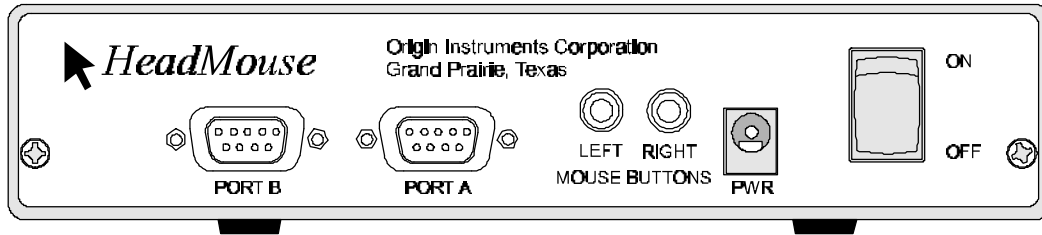

Figure 3. Illustration of HeadMouse Rear Panel.
- Using the HeadMouse interface cable (9-pin Serial, PS/2, ADB or USB), connect "PORT A" on the HeadMouse to the host computer port that is normally connected to your desktop mouse. Lightly fasten the cable thumbscrews. **Please note PS/2 devices should be connected to the host computer at boot time for proper initialization. If the PS/2 device is disconnected after initialization it may not function again until it is re-initialized.** See the wiring diagram in Figure 2 and illustration of the HeadMouse rear panel in Figure 3.